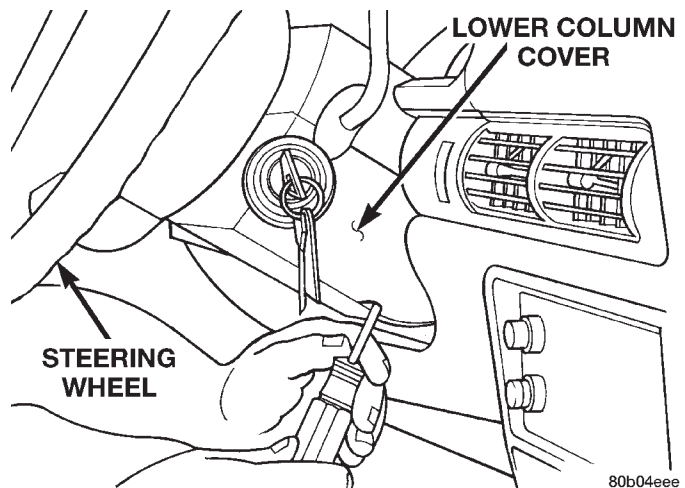

Fig. 13 Lower Column Cover Screw Removal
(2) Remove column cover screws (Fig. 13).